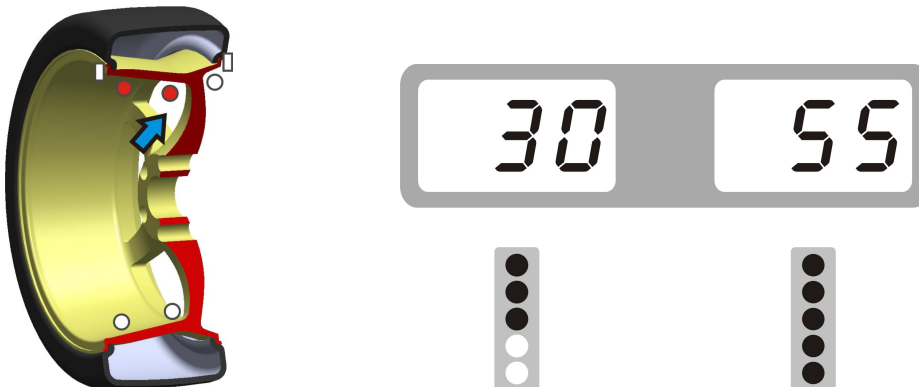

Fig. 10
4.3.5. Anticlockwise moving wheel slowly, the displays with right LED's lit up full indicate the correct angular position where to mount the counterweights, **12 o'clock position** outside, as **Fig.10**, add the counterweight.